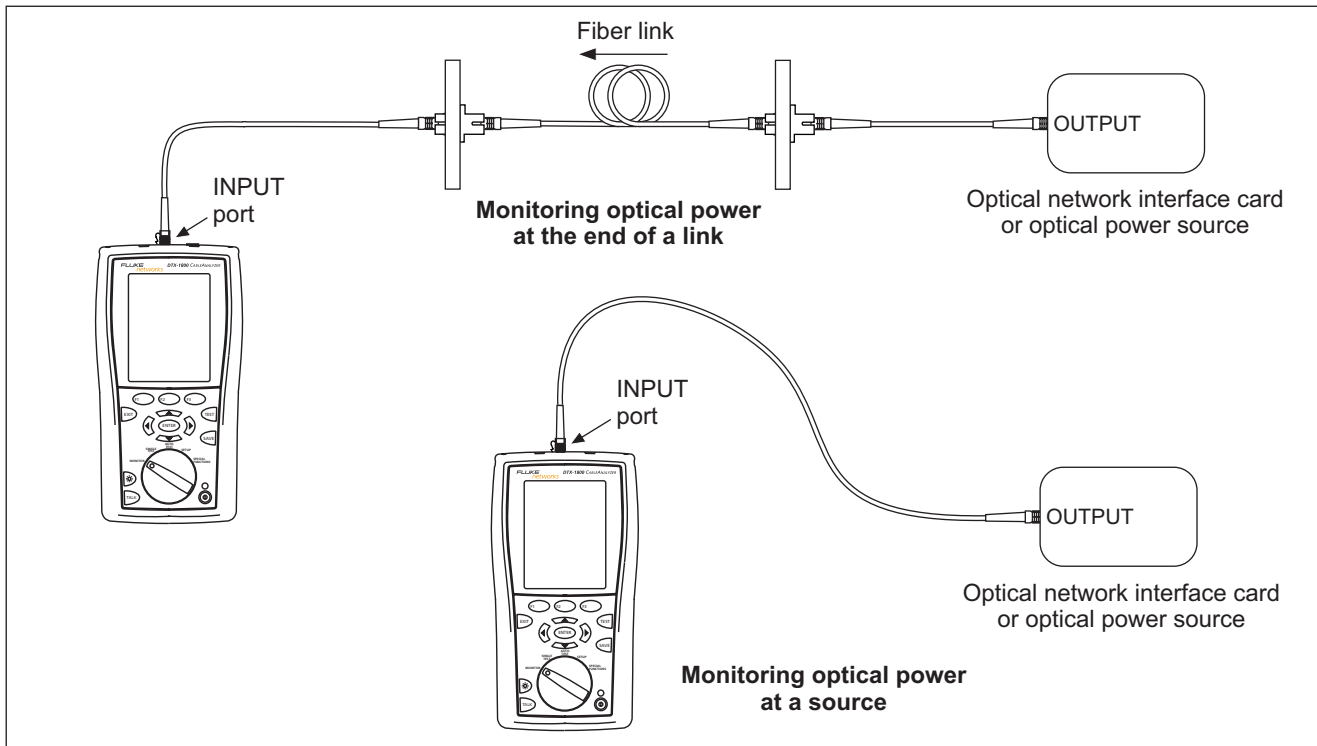

Figure 17. Connections for Monitoring Optical Power
- 2 Use the patch cord to connect the source to the tester's input port, as shown in Figure 17. Turn on the source.